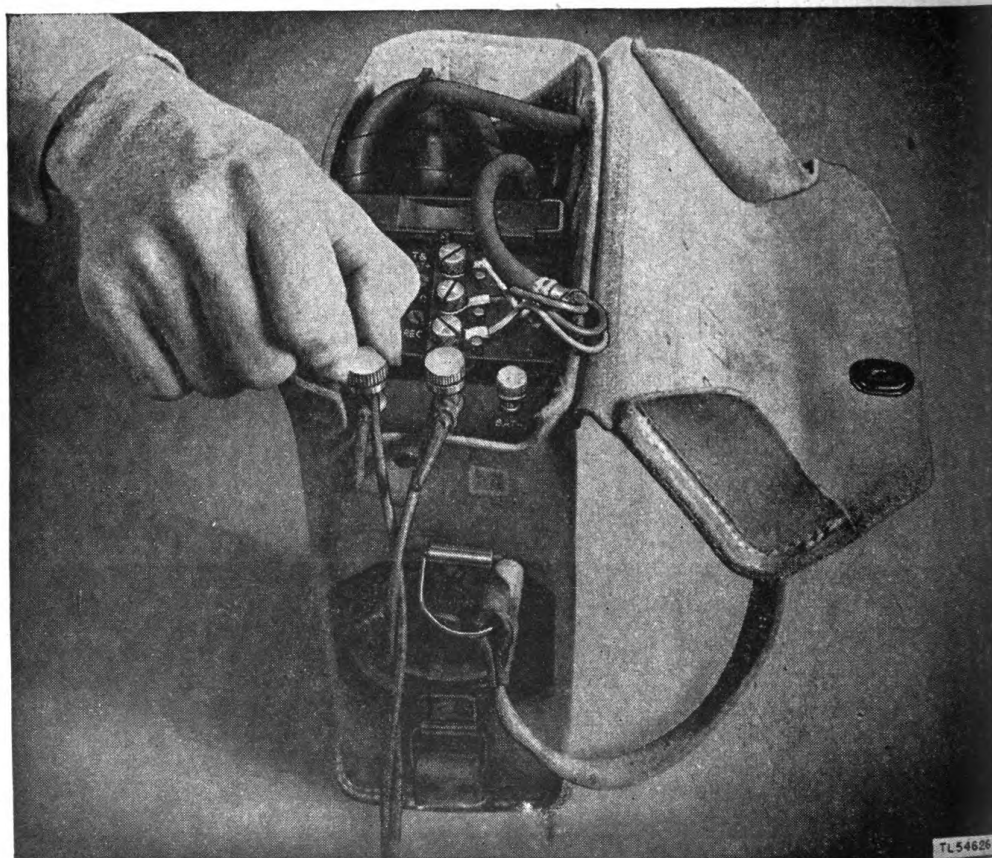

Figure 14. Connecting line wires to Telephone EE-8-A.
c. If the telephone is being connected to a metallic circuit, connect one wire of the line to the terminal marked L1 on the terminal block of the telephone. Connect the other line wire to the terminal marked L2. (See fig. 14.)